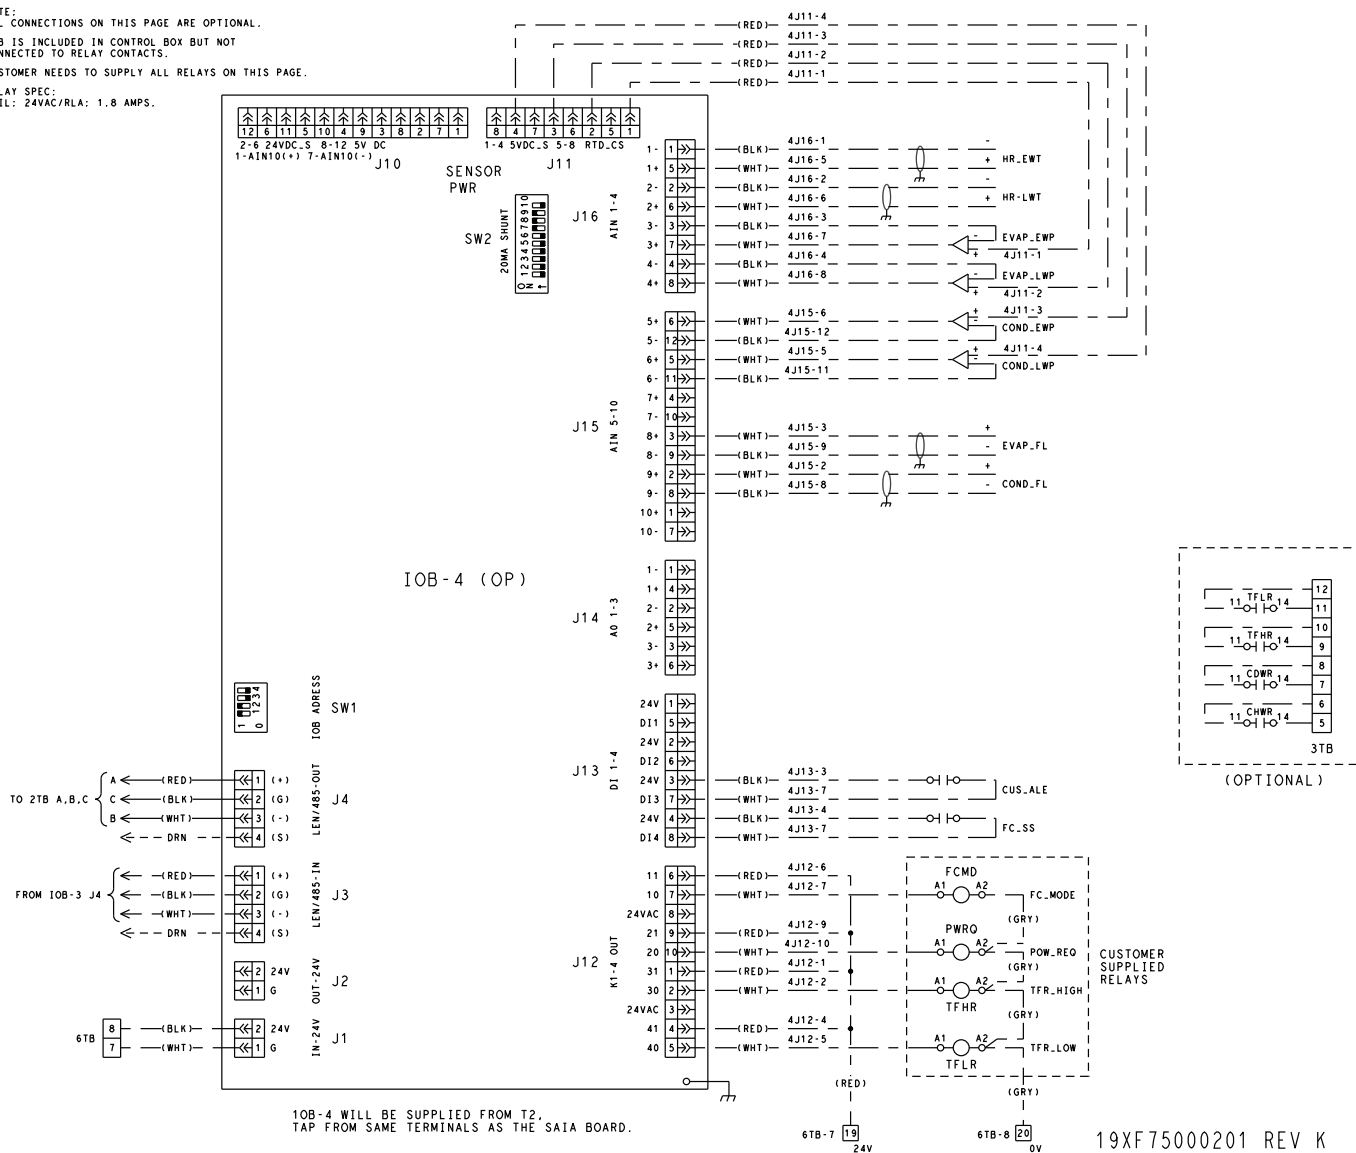

Fig. 15 — 19XR6/7 IOB4
- a. See Fig. 15 for IOB4 wiring diagram.
- b. For pressure readings, only Vout (output) terminal is indicated. See Fig. 15 for Vin (+) and ground (–).